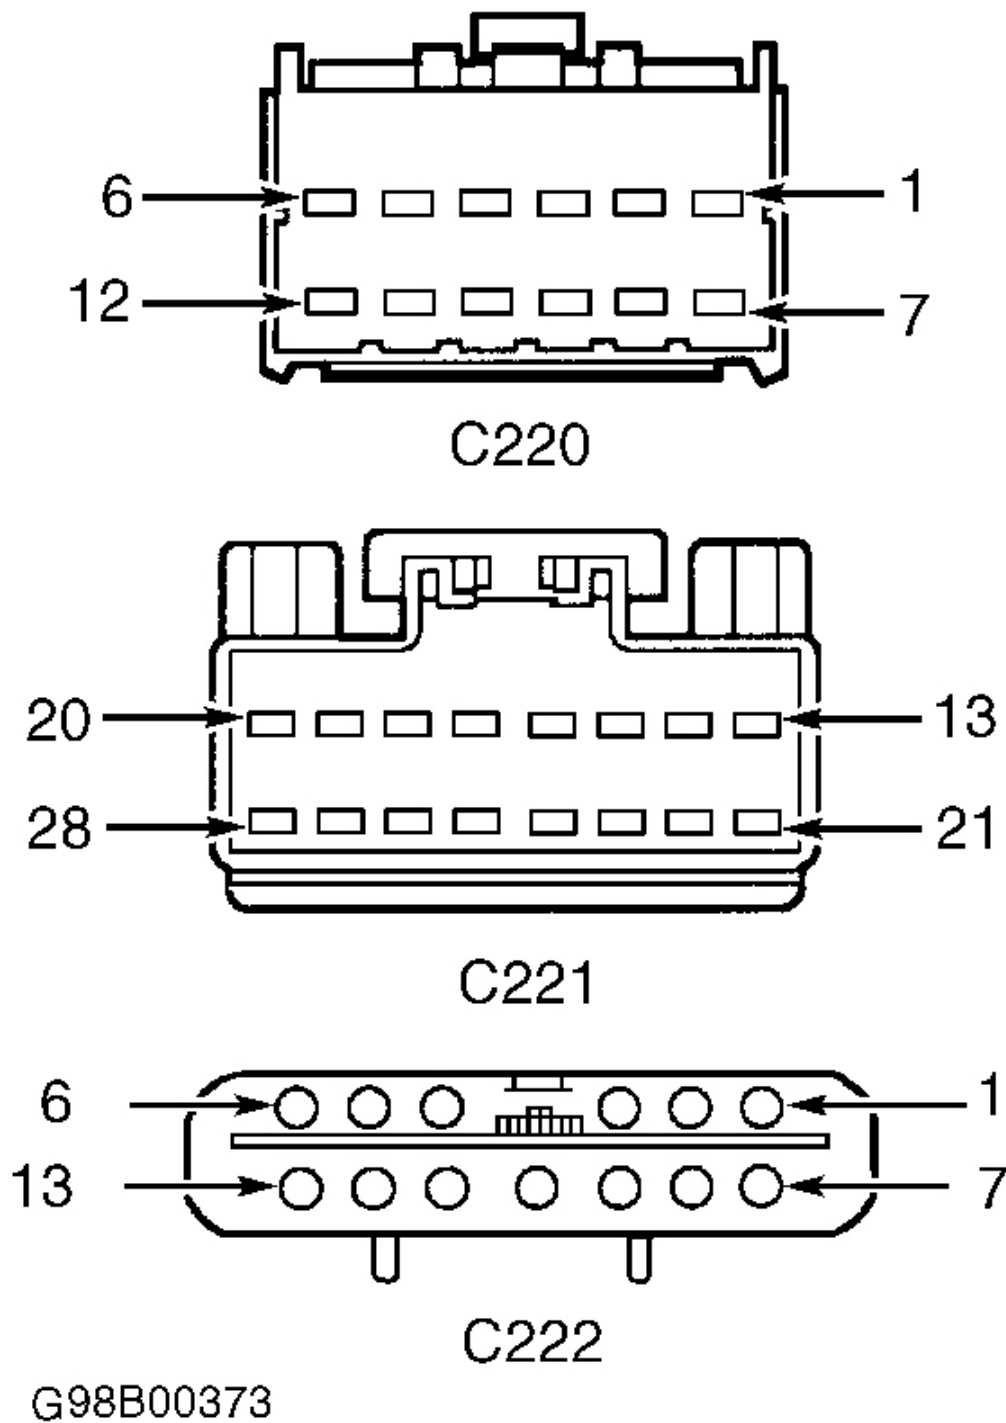

Fig. 1: Identifying Lighting Control Module (LCM) Connectors C220, C221 & C222
6. Turn ignition off. Disconnect LCM 12-pin connector C220 located behind center of instrument panel. Turn ignition switch to RUN position. Using a voltmeter, check voltage between ground and LCM 12-pin connector C220, terminal No. 6 (Dark Blue/Light Green wire). See **Fig. 1** . If voltage is more than 10 volts, replace LCM and retest system operation. If voltage is 10 volts or less, repair Dark Blue/Light Green wire between fuse junction panel fuse No. 18 and LCM and retest system operation.
10. Turn ignition off. Remove and disconnect headlight switch. Disconnect LCM 16-pin connector C221 located behind center of instrument panel. Using an ohmmeter, check resistance between ground and LCM 16-pin connector C221, terminal No. 25 (Orange/White wire). See **Fig. 1** . If resistance is more than 10 k/ohms, go to next step. If resistance is 10 k/ohms or less, repair short to ground in Orange/White wire between fuse junction panel fuse No. 31 and LCM and retest system operation.
12. Disconnect LCM 16-pin connector C221 located behind center of instrument panel. Using a voltmeter, check voltage between ground and LCM 16-pin connector C221, terminal No. 25 (Orange/White wire). See **Fig. 1** . If voltage is more than 10 volts, go to next step. If voltage is 10 volts or less, repair open in Orange/White wire between fuse junction panel fuse No. 31 and LCM and retest system operation.
13. Disconnect LCM 13-pin connector C222 located behind center of instrument panel. Ensure ignition is off. Using an ohmmeter, check resistance between ground and LCM 16-pin connector C221 terminal No. 23 (Pink/Orange wire). See **Fig. 1** . Check resistance between ground and LCM 13-pin connector C222, terminal No. 13 (Pink/Orange wire). If both resistances are less than 5 ohms, see appropriate MODULE COMMUNICATIONS NETWORK article to continue diagnosis. If either resistances is 5 ohms or more, repair open in appropriate Pink/Orange wire between LCM and ground and retest system operation.
11. Disconnect LCM 16-pin connector C221 located behind left side of instrument panel. Using an ohmmeter, check resistance in Black/Pink wire between LCM 16-pin connector C221 terminal No. 22 and key-in-ignition warning switch connector. See **Fig. 1** . If resistance is less than 5 ohms, replace LCM and retest system operation. If resistance is 5 ohms or more, repair open in Black/Pink wire and retest system operation.